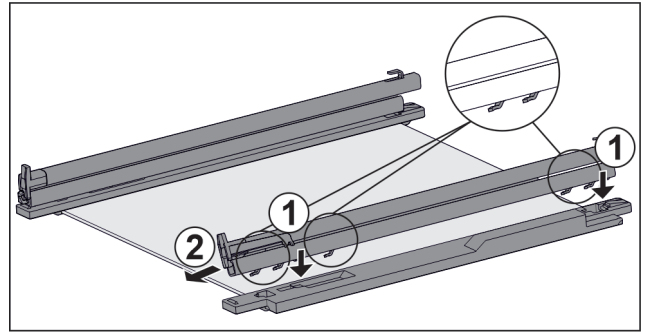

Fig. 125 Glass shelf with rails and retaining parts
- ▶ Place rail hooks onto the openings of the **left** retaining part. Fig. 125 (1)
- ▶ Push rail forwards. Fig. 125 (2)
- ▶ Place rail hooks onto the openings of the **right** retaining part. Fig. 125 (1)